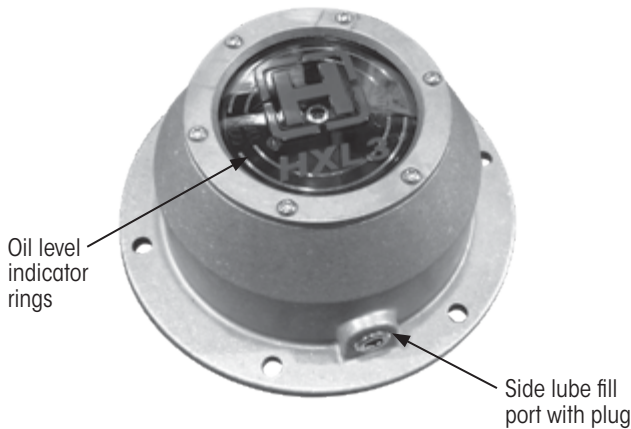
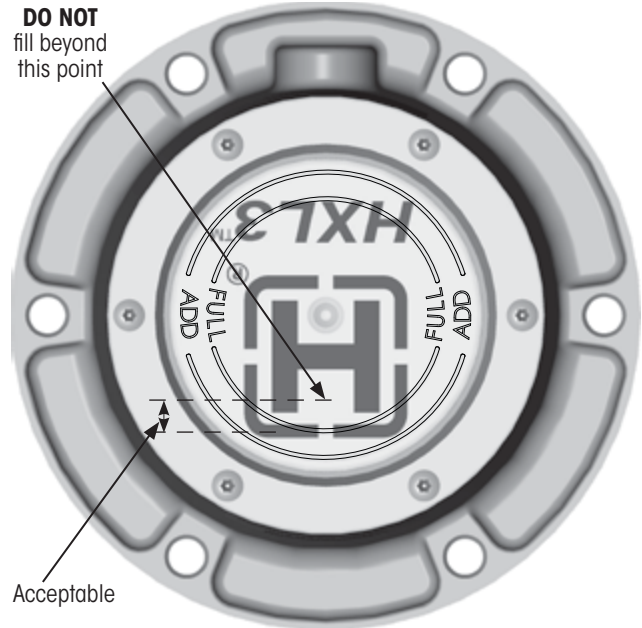

Figure 13: HXL3 oil hubcap with oil level indicator rings
Figure 14: Fill levels for oil lubricant
NOTE: Not all hubs have a fill port. In this case, oil can only be added through the hubcap side lube fill port (Figure 13).
2. **Fill** wheel end with SAE 75W-90 synthetic gear lubricant or SAE 80W-90 gear lubricant to "FULL" line on hubcap window as shown in Figure 13 and Figure 14.
NOTICE The oil level should be maintained to the hubcap FULL indicator ring shown in Figure 14. Oil can be added to exceed the FULL line, but must remain below the lowest hole on the spindle end plug (vent or supply line hole). Oil levels above this risk contamination and loss of oil through the axle plus a reduction in lubricating performance.
3. **Check** oil level at hubcap window (Figure 14).